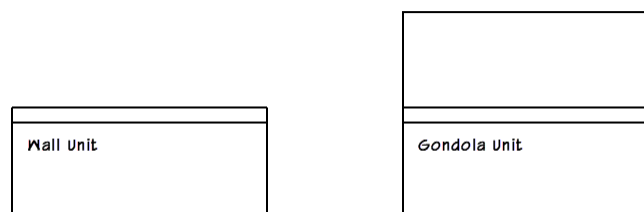

Figure 41
7. Save the family and reload it into the project to test it. When prompted, choose Overwrite Existing (see Figure 41).